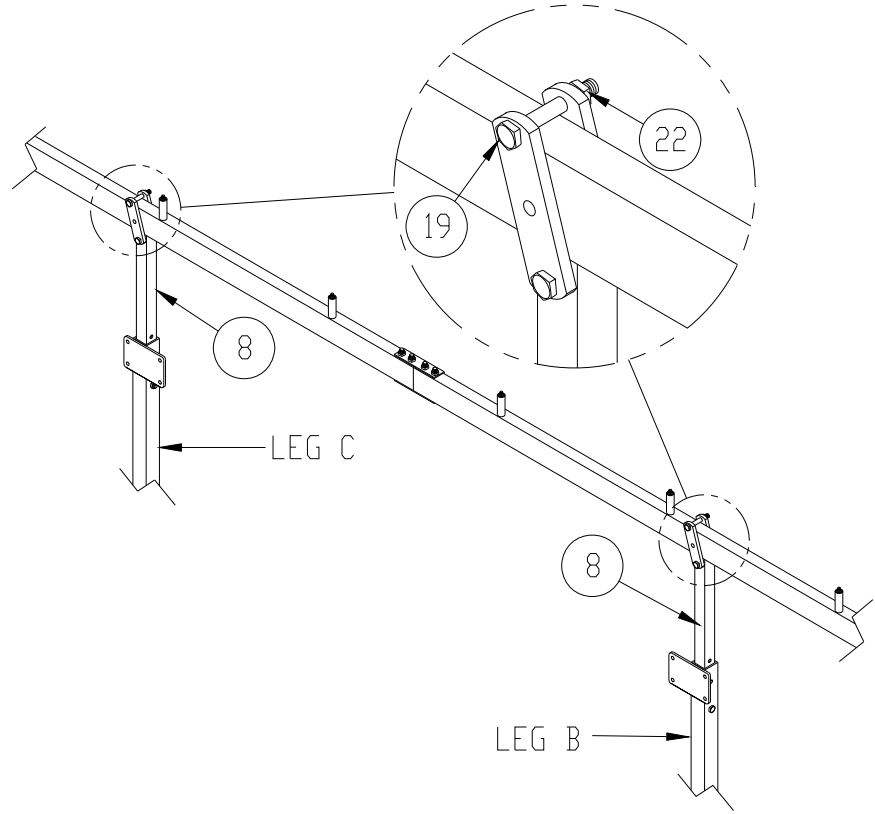

Figure 2-3.
3. Refer to **Figure 2-3**. Mount the assembled stringers to top of canopy extension legs on each side of lift. Canopy rib bushings are offset to the outside of canopy frame. Stringer connecting angles will then face inside of canopy frame (center of lift). Position the stringers such that the canopy protects the entire length of the boat and fasten in place with hardware shown.